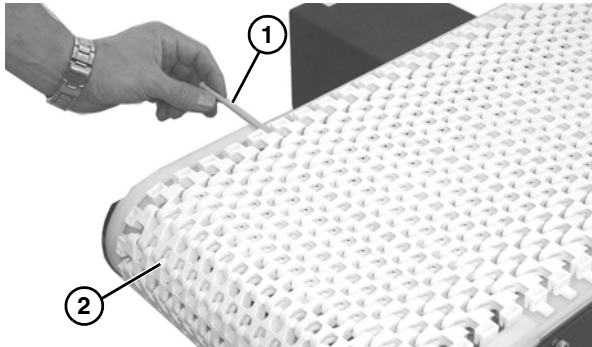

Figure 22
1. Use a punch and hammer to push the belt rod (Figure 22, item 1) out by striking the rod end opposite the retaining head.
2. Slide the old belt (Figure 22, item 2) off the conveyor frame.